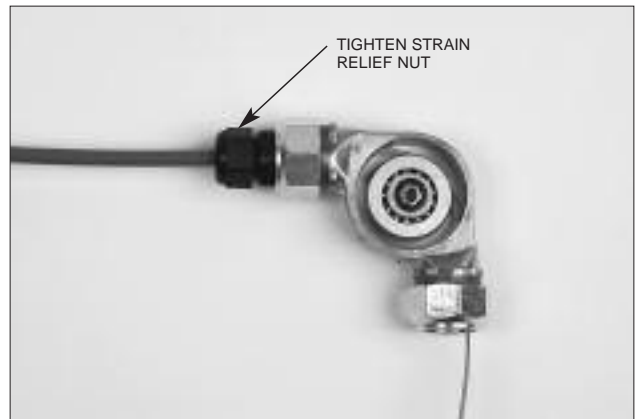

FIGURE 8
8. Tighten the strain relief nut onto the strain relief. See Figure 8.